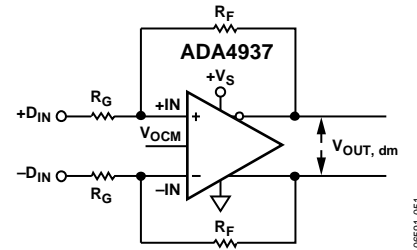

Figure 54. ADA4937-x Configured for Balanced (Differential) Inputs
The effective input impedance of a circuit depends on whether the amplifier is being driven by a single-ended or differential signal source. For balanced differential input signals, as shown in Figure 54, the input impedance ( $R_{IN, dm}$ ) between the inputs (+DIN and -DIN) is simply  $R_{IN, dm} = 2 \times R_G$ .
**Table 10. Differential Ground-Referenced Input, DC-Coupled, 1 kΩ Load; See Figure 54**